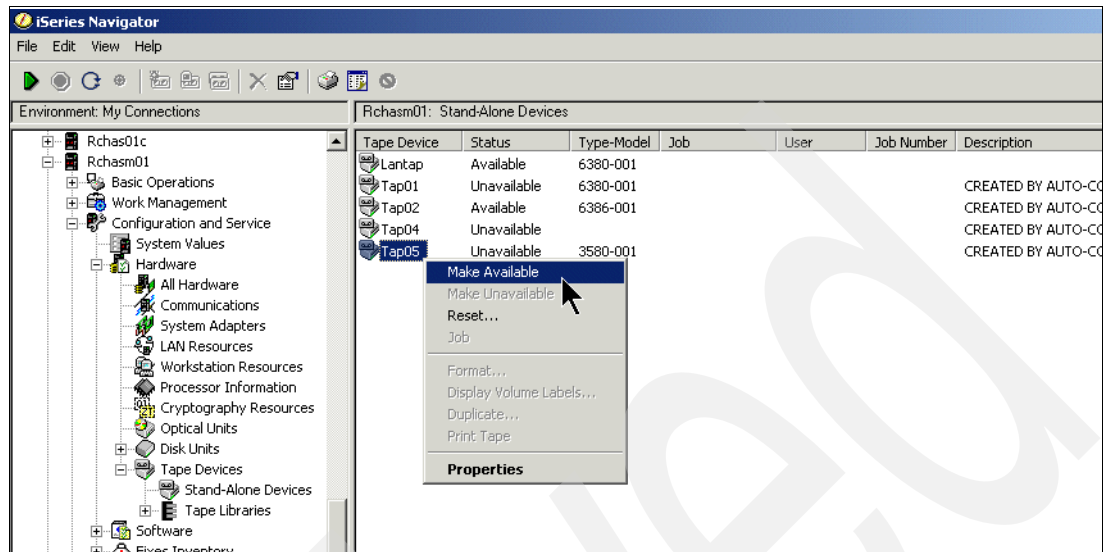

Figure 7-12 Making a tape drive available in System i5 Navigator
- c. Click **Stand-Alone Devices** and then right-click the tape device you want to transfer control of to i5/OS. Select **Make Available** as shown in Figure 7-12 on page 298.